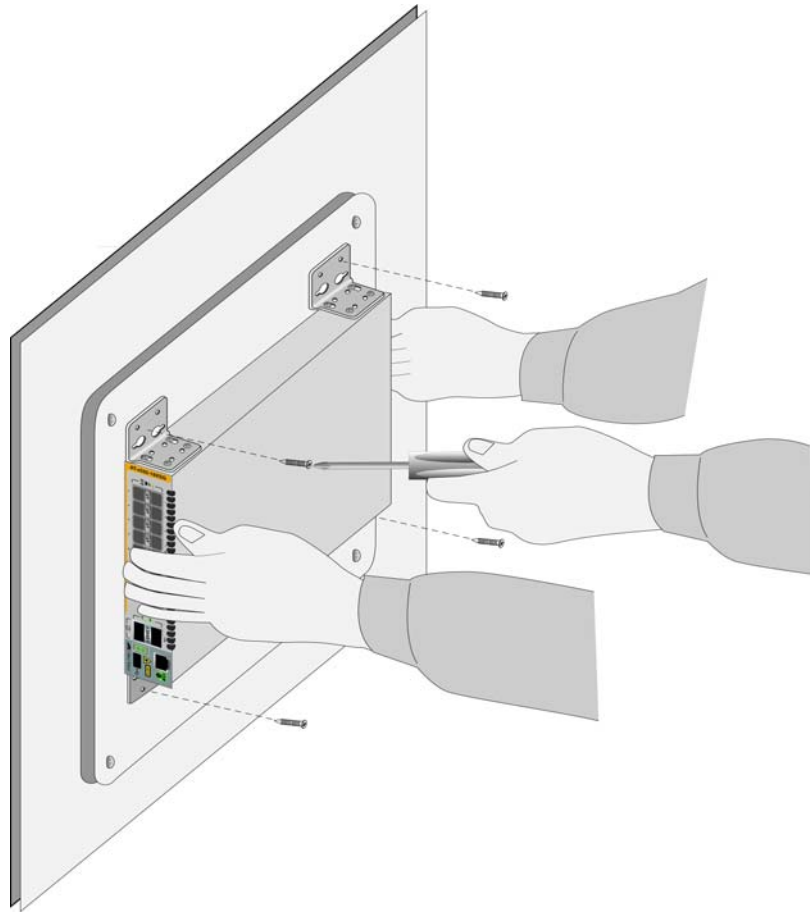

Figure 37. Securing the Switch to the Plywood Base
3. After attaching the brackets to the side of the switch, have another person hold the switch on the plywood base on the wall while you secure it with the four M4x32.3mm screws included with the switch. Refer to Figure 37 on page 80.